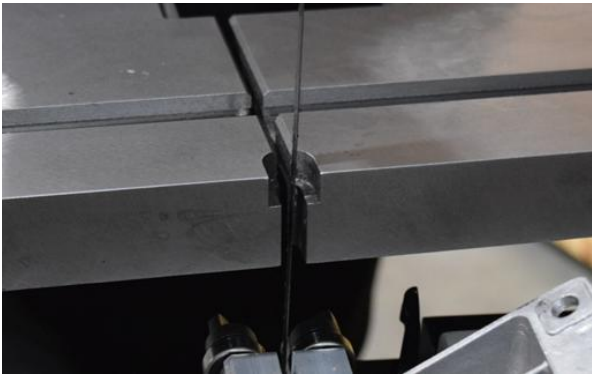
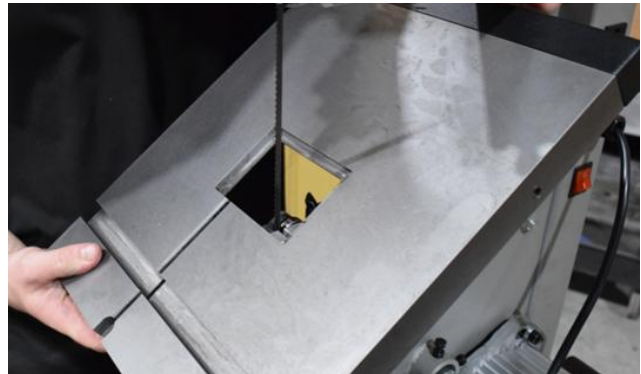

Fig. 20
Fig. 21
2. Fit the table onto the trunnion, with the slotted end pointing away from the machine. It is recommended that second person hold the table while the other person secures it (Fig.20, Fig.21).